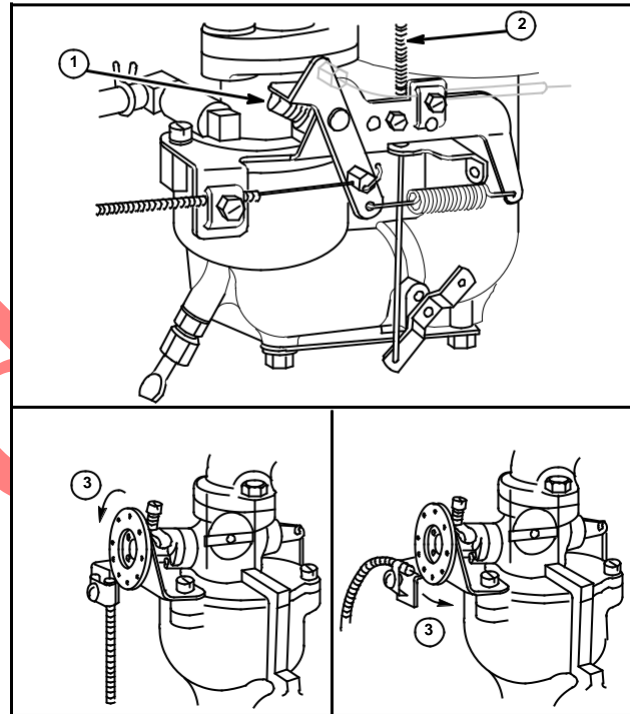

Fig. 150
The remote throttle control opens carburetor throttle until full governed speed is obtained, at which point governor takes over control of throttle. At any point below governed speed, throttle is held in fixed position and engine speed will vary with load, Fig. 150. Idle screw (1), remote choke control (2), throttle closes in direction shown (3).